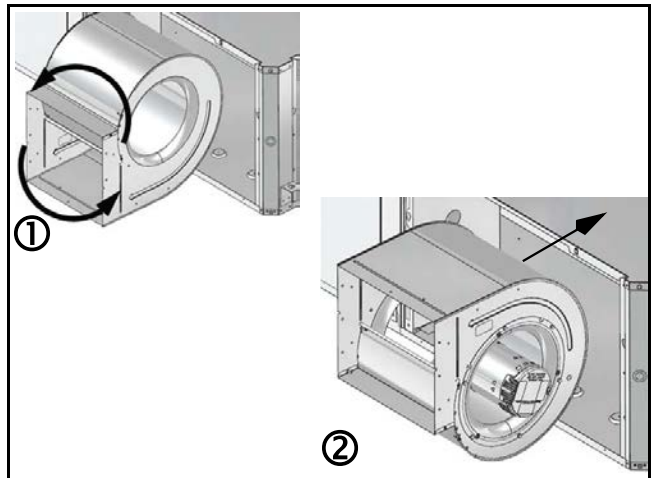

Fig. 19
10. Reorient the blower assembly 180 degree with the blower "belly" down [1] and slide it back into the cabinet [2]. (See Fig. 19.)